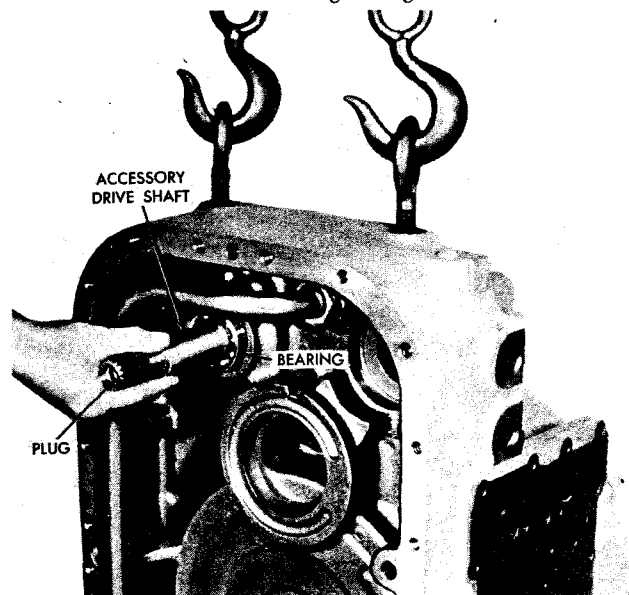

Fig. V-19. Removing accessory drive shaft assembly and bearing
(6) Remove the accessory drive shaft assembly and bearing (fig. V-19). Do not remove the plug from the shaft. Do not remove the bearing from the shaft unless necessary. If necessary, drive the bearing from shaft. It may be necessary to tap the assembly lightly with a soft hammer from the mounting pad side.